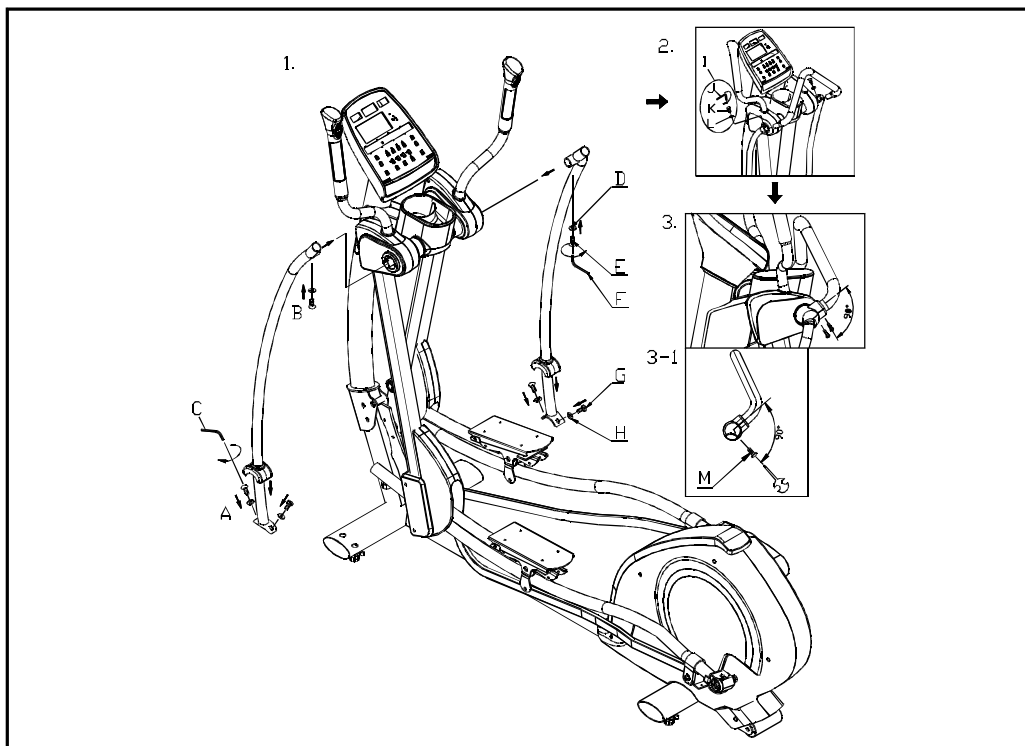

Fig.5
STEP 8. (1) Loosely secure bolts A and B on both Side Supports. At this point, do not tighten these bolts.
(2) With hardware shown in illustration I, secure the Stationary Handlebar at both sides. Then Tighten bolts A and B.
(3) Secure the Stationary Handlebar covers with M screws. When securing the handle bar, make sure direction of screws are 90-degree to the handlebar. (See Fig. 5)